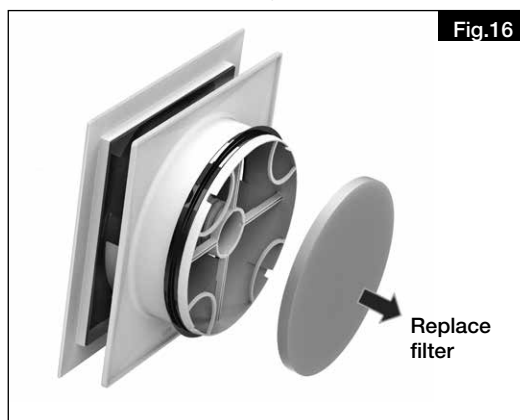

Fig.16
2. Remove filter and replace with new filter (see Fig.16).